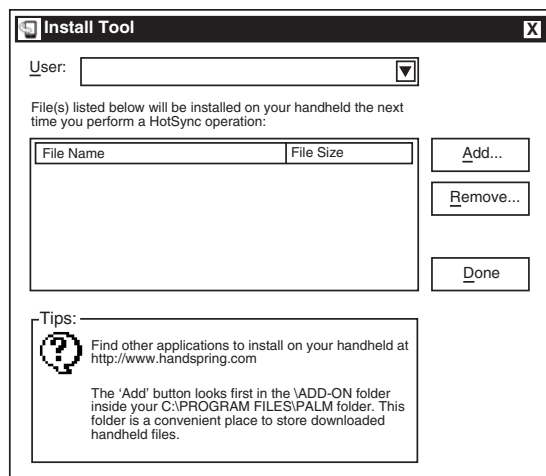

Figure 2-18 M-3811A IPScom® for Palm OS® Download Directory
4. Verify the file M-3811APalm.prc is displayed in the download directory (Figure 2-18), then select **Done**.